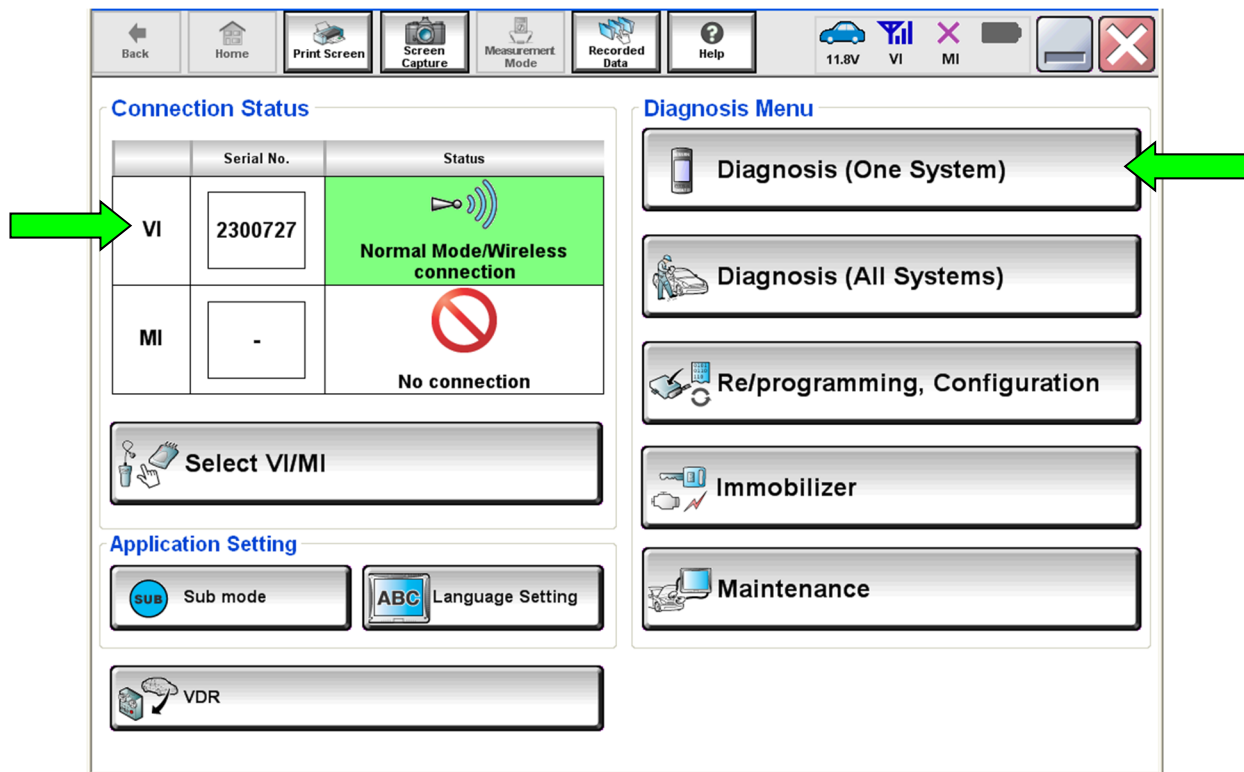

Figure 9
15. Return to the C-III plus Home screen (see Figure 9).